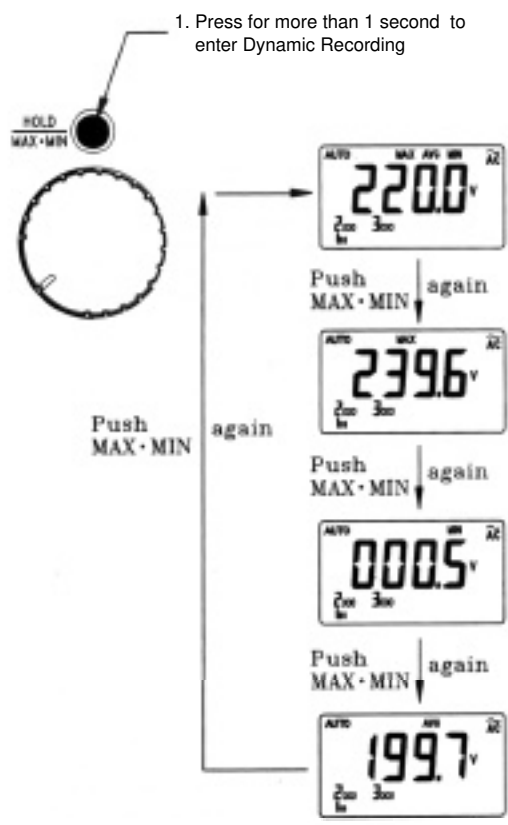

Figure 7. Display of Dynamic Recording
2. Press this button momentarily to cycle through maximum, average and present readings. The **MAX, MIN, AVG** annunciator turns on respectively to indicate what value is being displayed. See **Figure 7**.